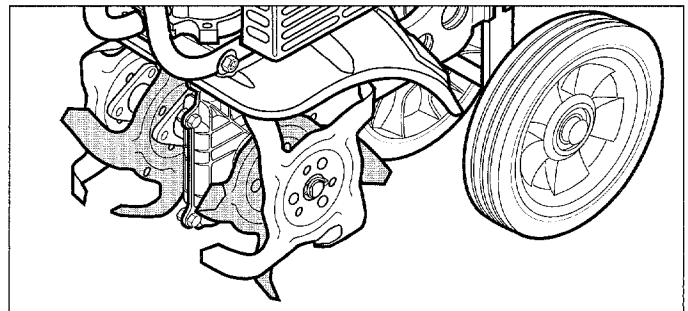

Figure 21: Stony soil tine configuration.
- Replace the two outer tine sections on the sides of the machine from which they came. See Figure 21.